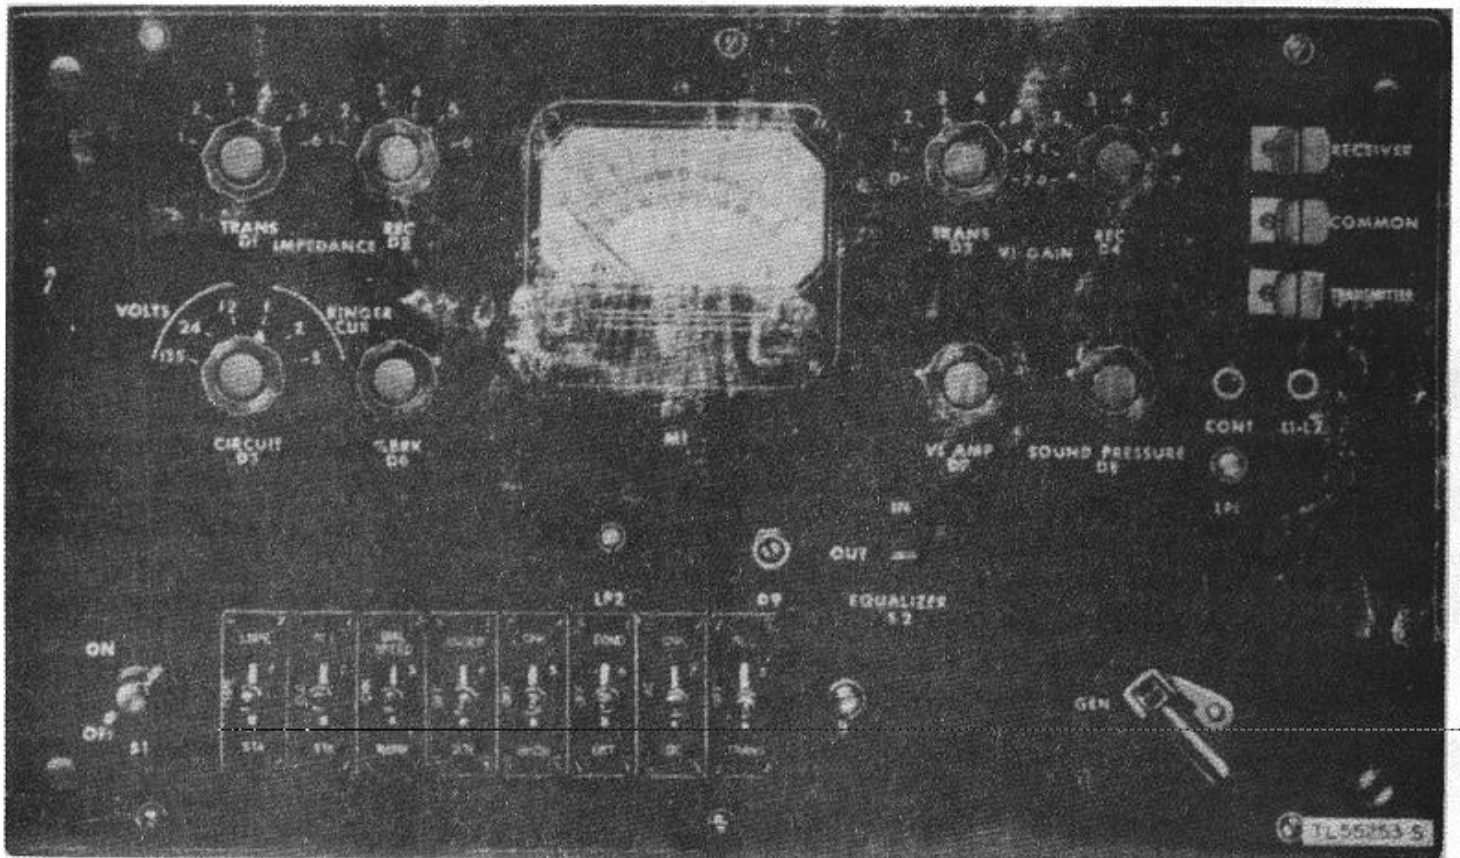
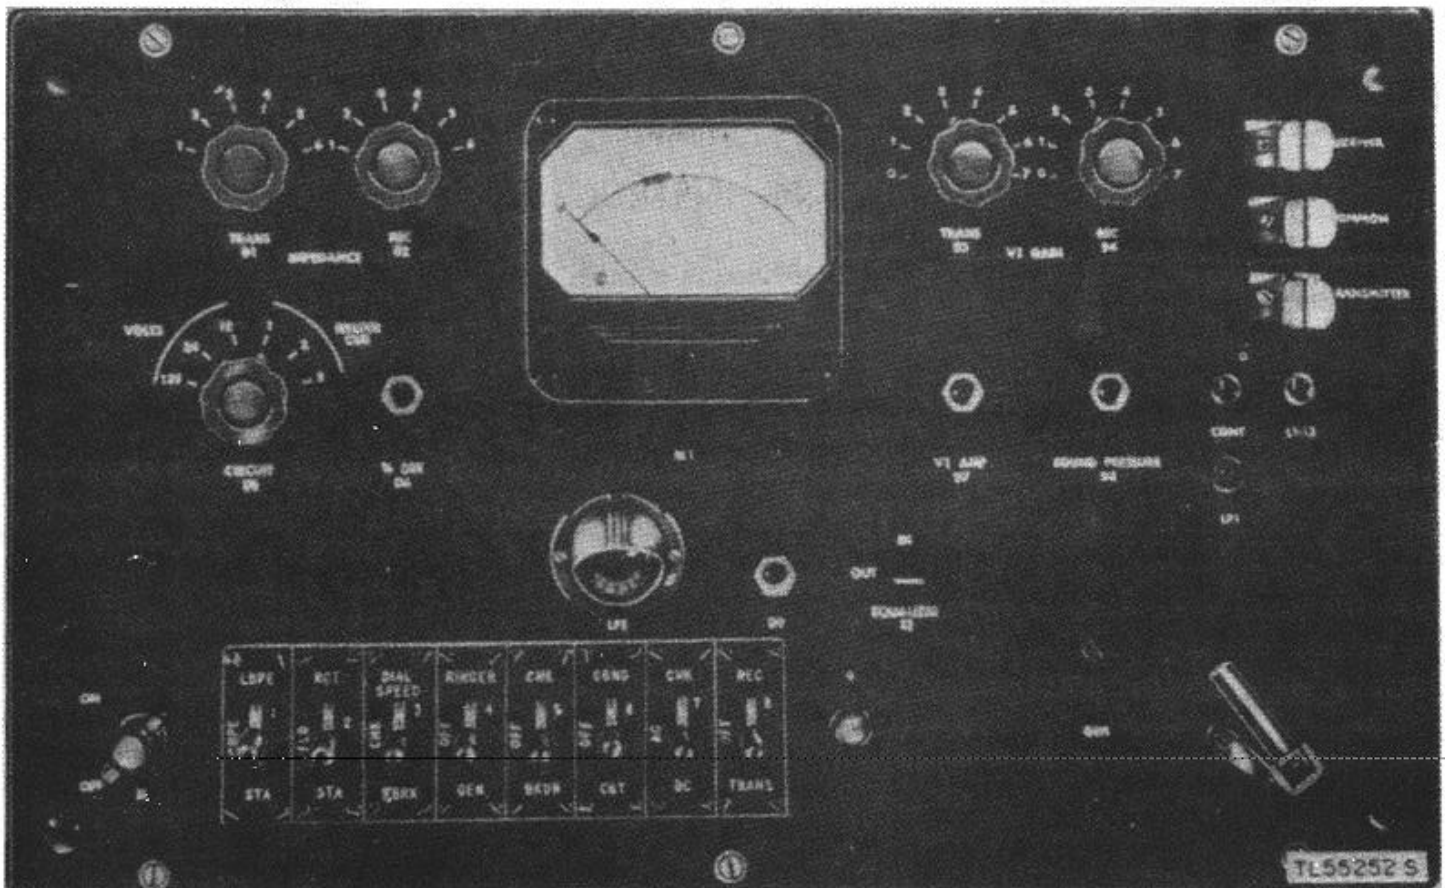

Figure 2. Test Set 1-142, control panel.
Figure 5. Test Set I-142-A control panel.
c. EQUIPMENT FEATURES. All models provide the same testing facilities and have the same circuit arrangement. The wiring plan of the tropicalized set differs from that of the early models to accommodate the use of hermetically sealed capacitors in place of lead-mounting tubular capacitors used in early models. The tropicalized sets have depressed slotted controls in place of knob-type controls for the elements (D6, D7, and D8) adjusted in the daily operations calibration. This change reduces the hazard of the adjustment being moved accidentally during use. Neon tube LP2 is accessible from the front of the panel on the later model sets. Panel arrangement of sets serial numbered 161 and up and Test Set I-142-i is shown in figure 5. Figure 2 shows panel arrangement of the early model. The difference in wiring and arrangement of parts mounted inside the set is described in the repair section.
#### 13. Functions of Controls (fig. 5)